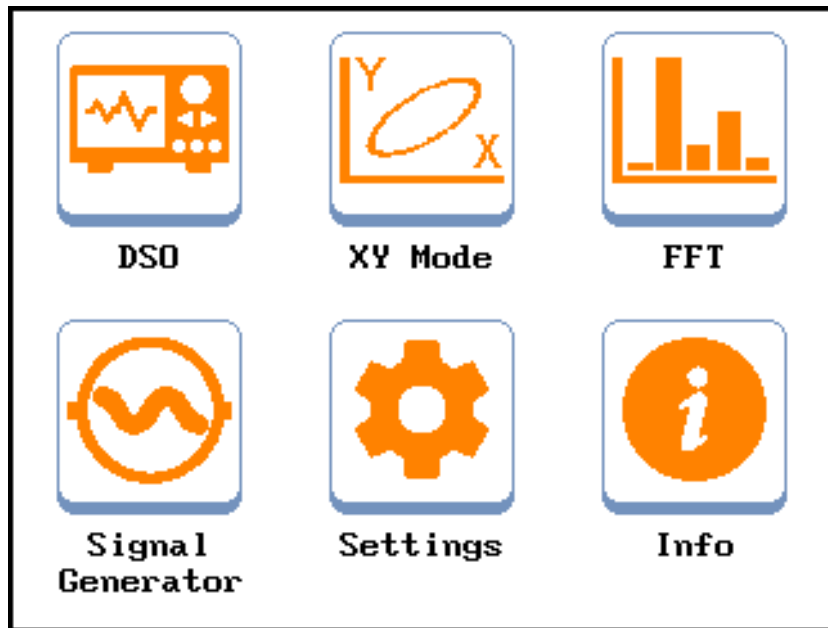
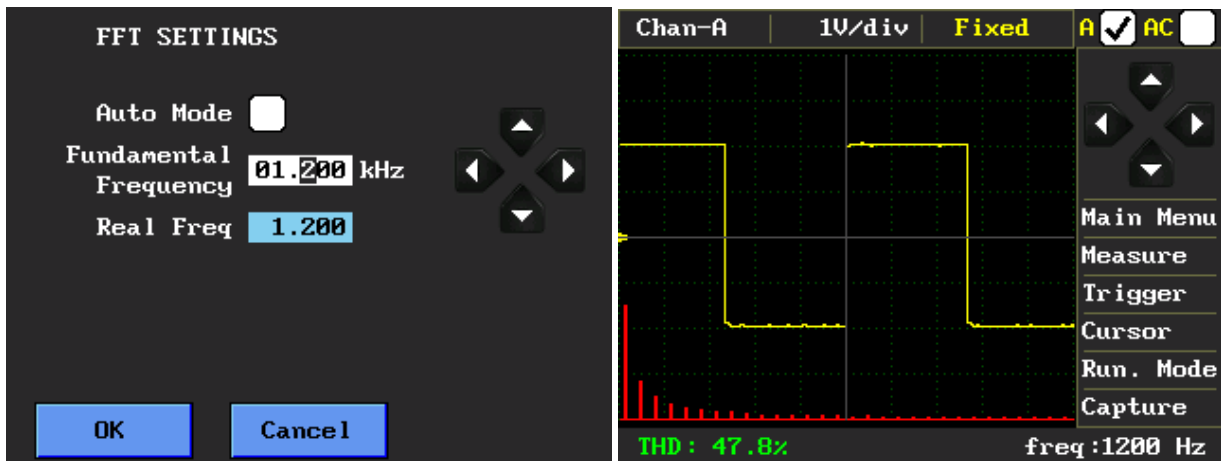

Figure 2. Main Menu image
Figure 16. Fixed mode FFT analysis
When the product is energized, the device is turned on and the main menu in Figure 2 appears.
Sometimes it may not be possible to measure the frequency of some signals (e.g. SPWM, modified sine, etc.). In such cases, it cannot be possible to perform FFT analysis in automatic mode. If the fundamental frequency of the wave is known, the 'Auto Mode' check box is removed from the 'FFT settings' menu and the frequency input is activated. The fundamental frequency of the signal is entered into the 'Fundamental Frequency' section. Below of this section, it can be seen what the set frequency actually would be. As the frequency rises, any deviations may occur between the desired frequency and the actual frequency. The frequency range that can be entered from **20 Hz** to **50 kHz**. In this analysis mode, the horizontal sensitivity section (3) calls 'Fixed' as in (Figure 16).
The amplitude of the harmonic components in FFT analysis, is the same as the vertical sensitivity. The frequency/div ratio is six times as the frequency of the signal. In the example of Figure 16, the frequency/div value is $1.2 \text{ kHz} * 6 = 7.2 \text{ kHz / div}$. The number of harmonics shown in the FFT analysis is **60**.
The signal is generated by the 12bit 1Msps DAC on the oscilloscope. When the 'Signal Generator' button is clicked in the main menu (Figure 2), the following menu is displayed (Figure 16). In that menu, there are some edit boxes where the offset voltage, amplitude and frequency can be set. In order to change the value which you need, click on it. The value will be marked in a frame. Desired value is set by using 'four direction arrow' (5). When the values are changed, the signal to be generated is refreshed in the graphic. The voltage range that can be entered for offset voltage is $-5\text{V} \sim +5\text{V}$, the range that can be entered for amplitude is $0\text{V} \sim 10\text{V}$. Frequency range; for sinus, square, triangle, sawtooth, arbitrary, tangent, logarithmic, vertical cut sinus is $1\text{Hz} \sim 99999\text{Hz}$. The frequency range for the coded pulse and sinus modulated square is $1\text{Hz} \sim 12500\text{Hz}$.